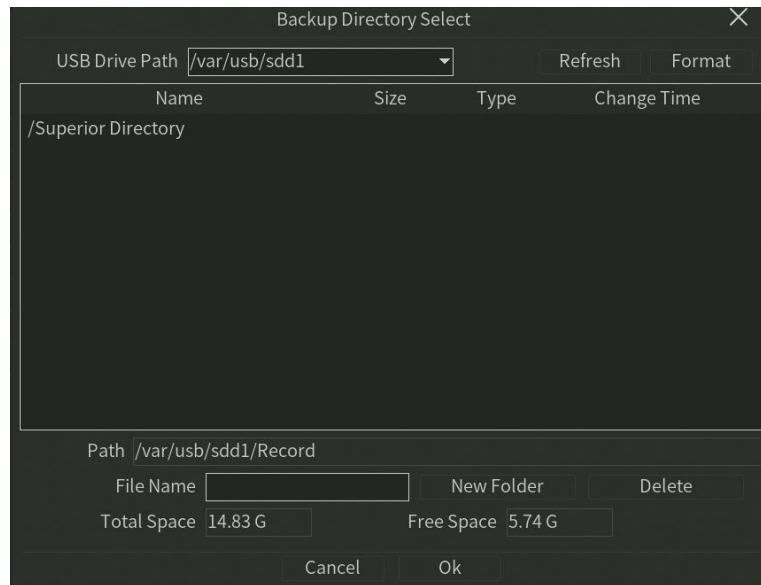

Figure 7.21 Record Backup Setting
8. Click **Backup** button to start the backup(Note need plug the USB disk),as shown in figure 7.21 and 7.22.